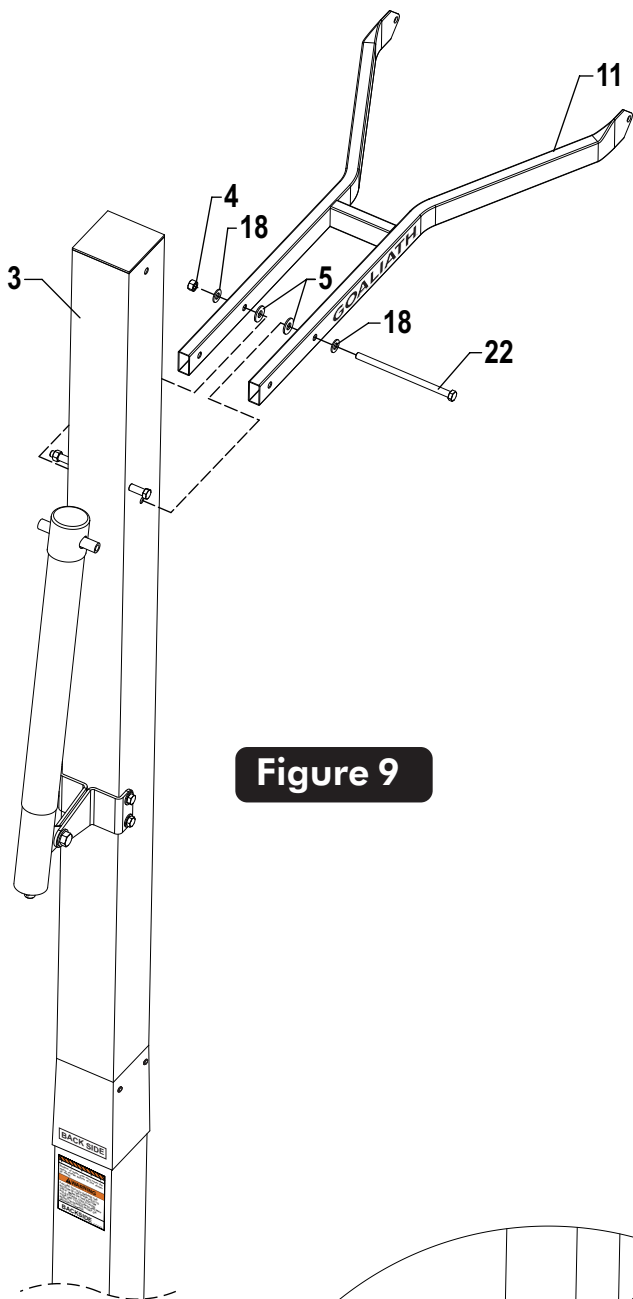

Figure 9
- Attach lower arms (#11) to Top Pole (#3), as shown in **Figure 9**, using a hex bolt (#22), two flat washers (#18), two plastic washers (#5) and lock nut (#4).